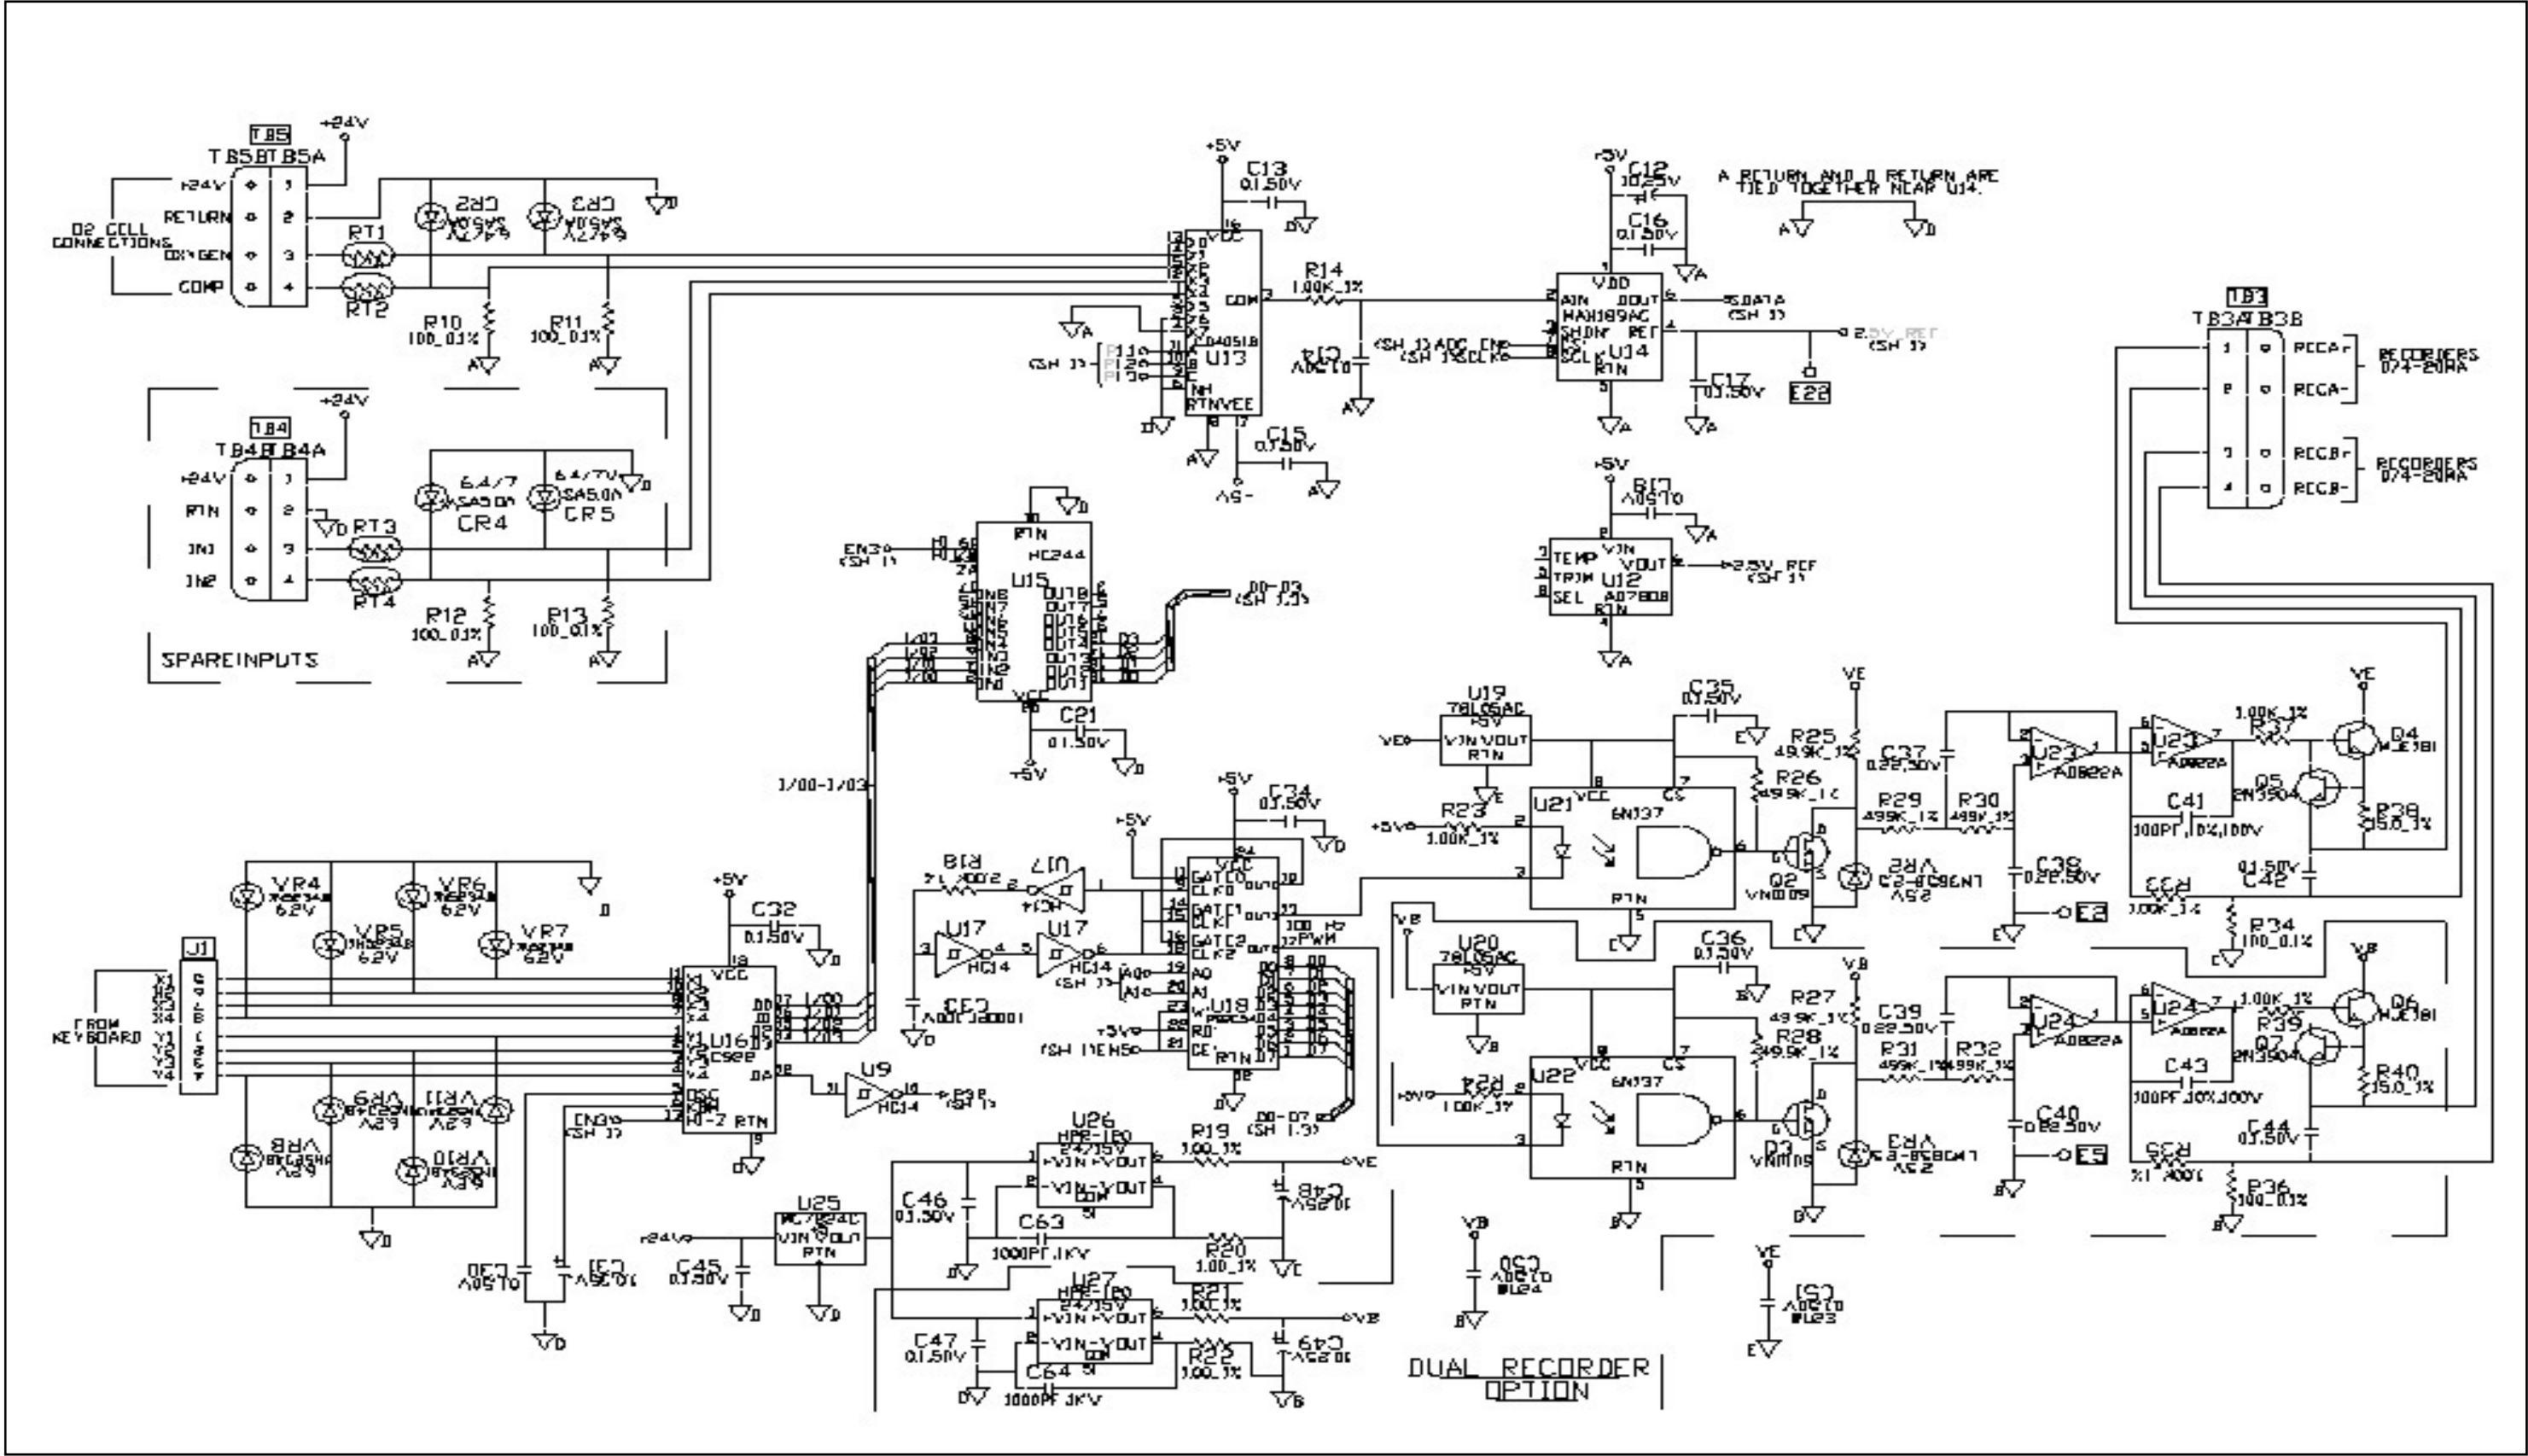

Figure 24: Oxygen Display PC Board Schematic (ref. dwg #700-1226, sht 2)
- *Figure 24:* Oxygen Display PC Board Schematic, sht 2